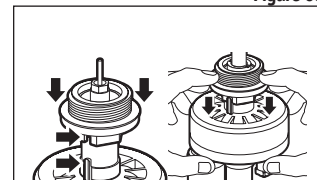

Figure 6d
5. Install the 1 in. threaded adapter by pushing it onto the actuator stem and making sure the notch on the adapter lines up with the notch on the stem of the actuator (see Fig. 6d).